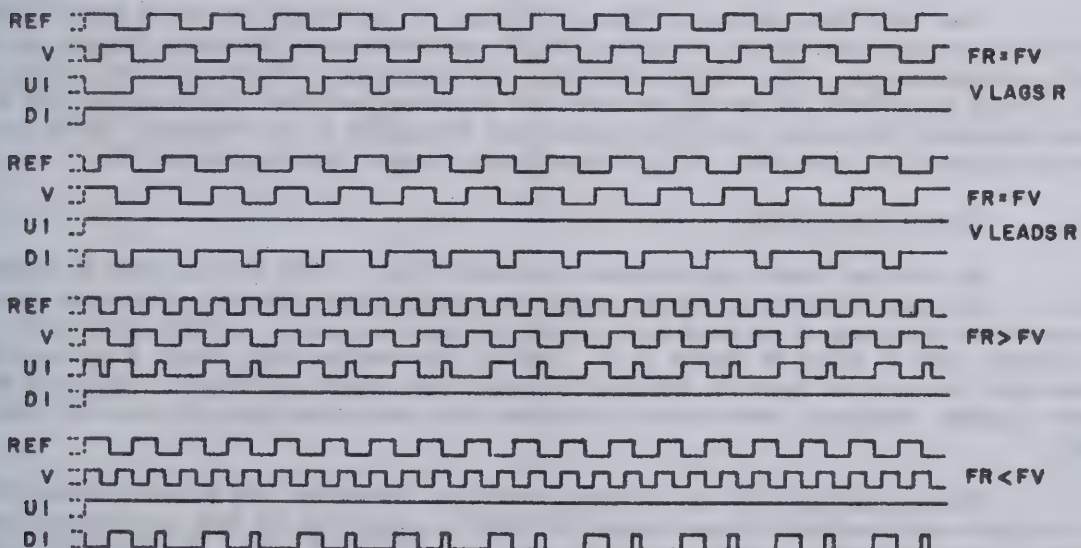

Figure 3-9. Phase Detector Timing Diagram
The phase detector normally receives a fixed reference frequency at one input (R) and a variable frequency at the input (V) from the divider section. The output responds only to transitions from the two inputs and has four output states as shown in Figure 3-9. If the frequency and phase match exactly, outputs U and D remain high. If the variable input leads in phase with respect to the reference input, U remains high and D goes low. If the variable input lags in phase with respect to the reference input, D remains high and U goes low. When inputs V and R are separated by a frequency difference, the output at pins U or D varies high and low at a rate proportional to the difference frequency of the two inputs.